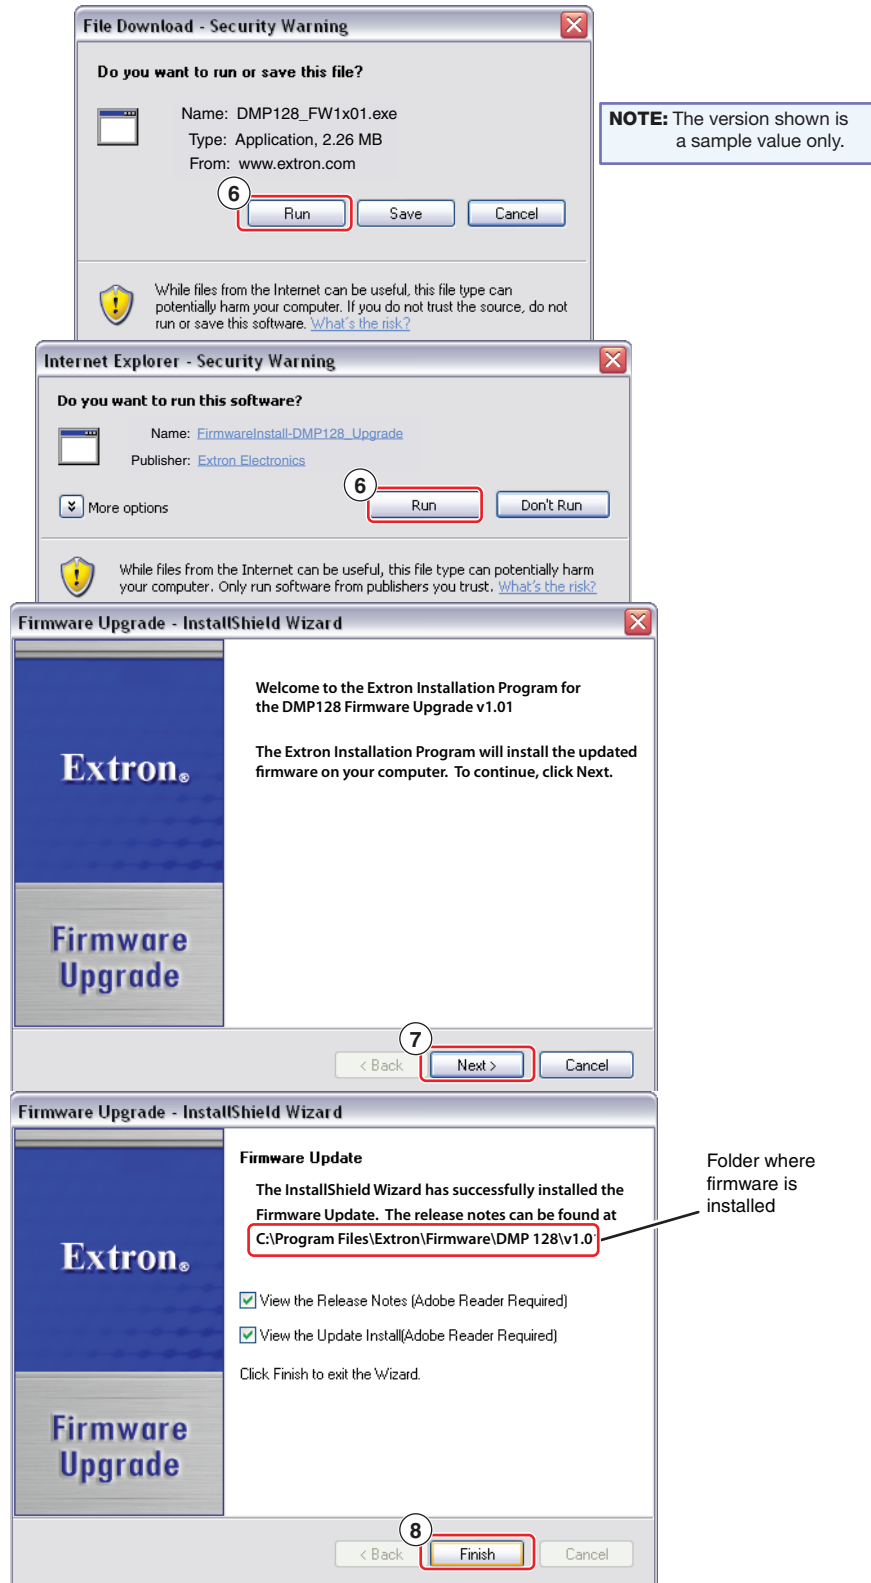

Figure 74. Downloading Firmware Upgrade Files
1. Select **Run** twice (6 in figure 74). The PC downloads the firmware update from the Extron Web site and starts the installation program to extract the firmware file.
2. Click **Next** (Ⓢ in figure 74 on the previous page). The program extracts and places the firmware files in a folder identified in the InstallShield Wizard dialog box.
3. Click **Finish** (Ⓢ in figure 74) to exit the program.